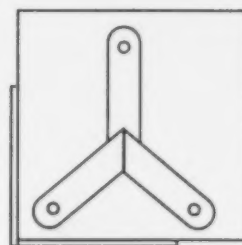

Figure 13 - Position of Gripper Support
31. Place Y support (#11) and two gripper attachments (#13) in position on the assembly jig. See Figure 13. Glue in place. Let glue cool, then remove piece and assemble another Y support.